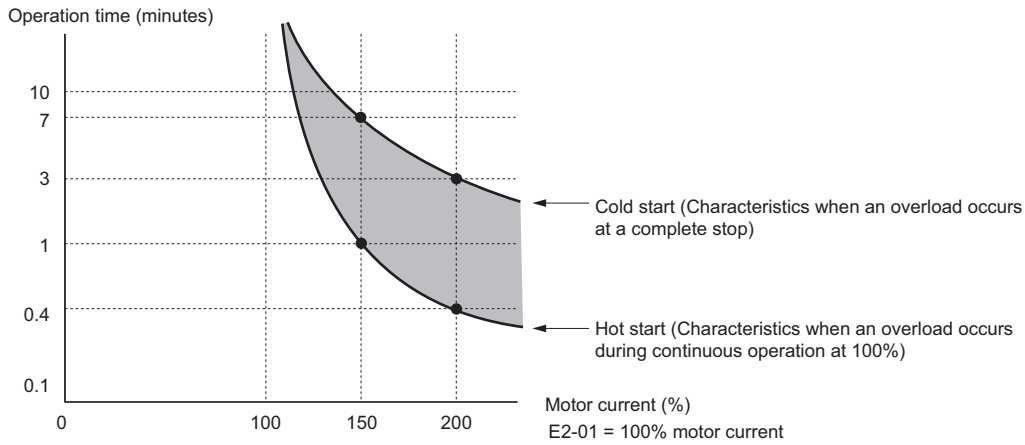

Figure 5.90 Protection Operation Time for General Purpose Motors at the Rated Output Frequency
- **Figure 5.90** shows an example of the electrothermal protection operation time using a general-purpose motor operating at 50 Hz with L1-02 set to one minute.